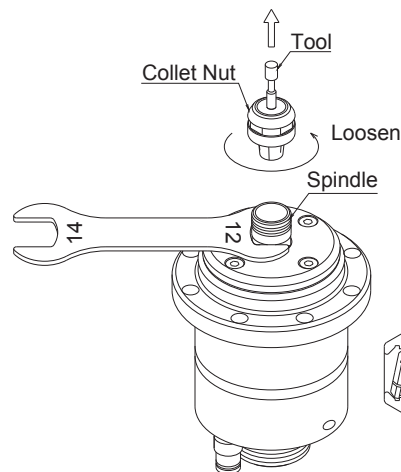

Fig. 4
Replace the collet refers to Figs.4 and 5 by the following procedures.
- ① Supply the pressure (0.5MPa) to the air bearing.
- ② Loosen the collet nut with the cutting tool installed according to the "8.Replacing Tools" described above, and turn until the collet nut is removed from the spindle shaft, then pull it together with the end tool from the spindle shaft. After that, pull out the cutting tool from the collet. (Fig.4)